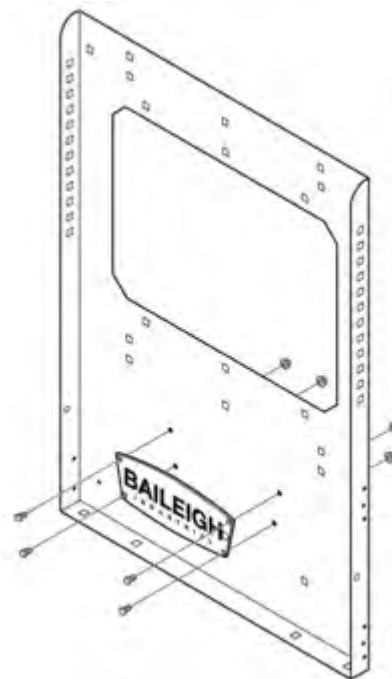

Figure 4-1
1. Using eight M6 x 16 Button Socket-Head Cap Screws (item #12) with M6 Hex Flange Nuts (item #35), attach the two Baileigh Logo Plates (item #13) to the Side Panels (item #14) as shown in Figure 4-1). **Fully-tighten these screws.**